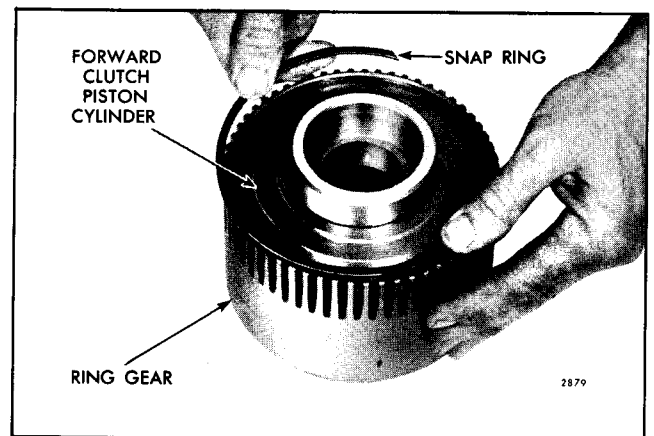

Fig. 62 - Installing Forward Clutch Piston Cylinder Snap Ring in Ring Gear
- n. Place the ring gear and forward clutch assembly on a bench, with the forward clutch piston cylinder end facing up; then, install the snap ring in the groove inside the ring gear next to the piston cylinder as shown in Fig. 62.
NOTE: The forward clutch piston cylinder snap ring shown in Fig. 62 is .074" -.078" thick and has a free diameter of 5-7/8" + 1/16" and is only used at this location to retain the forward clutch piston cylinder in the ring gear.